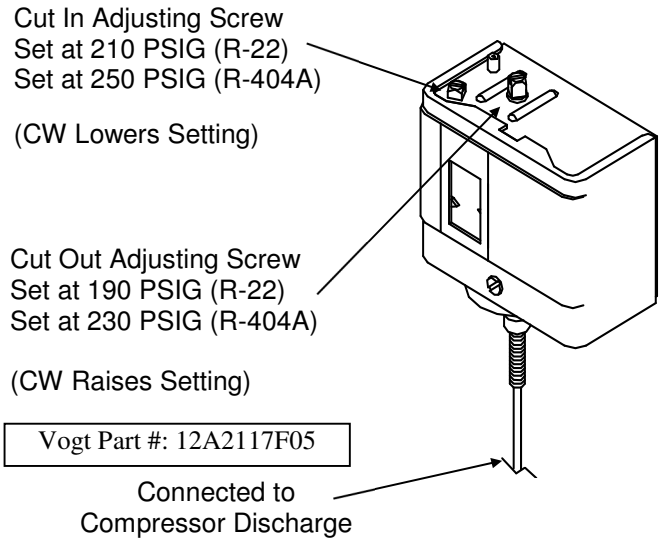

FIGURE 9-5B.
Air-Cooled Units. The condenser fan switch mounted to the frame (lower right side) (FIGURE 9-5B) (CPS) is used to regulate the head pressure. This is an adjustable pressure switch located on the right-hand front of machine. It controls the operation of the condenser fan motor(s) through a contactor (FC) (FIGURE 6-2) located in the control panel. The switch is set to cycle the fan motor(s) “On” at 210 psig and “Off” at 190 psig for R-22 and “On” at 250 psig and “Off” at 230 psig for R-404a. Higher settings may be necessary for 0°F and below ambient conditions to assure there is enough warm gas for ice harvesting.